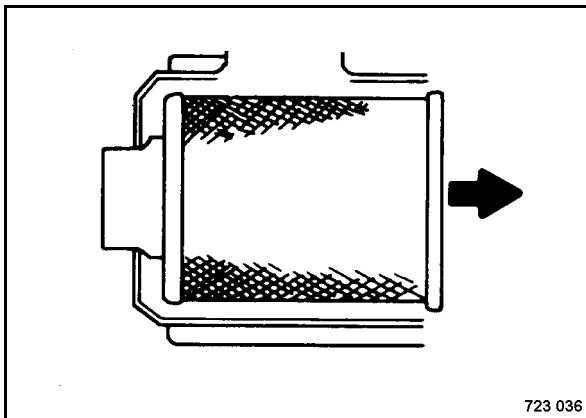

Fig. 135
- Pull the filter element (Fig. 135) carefully out of the housing.